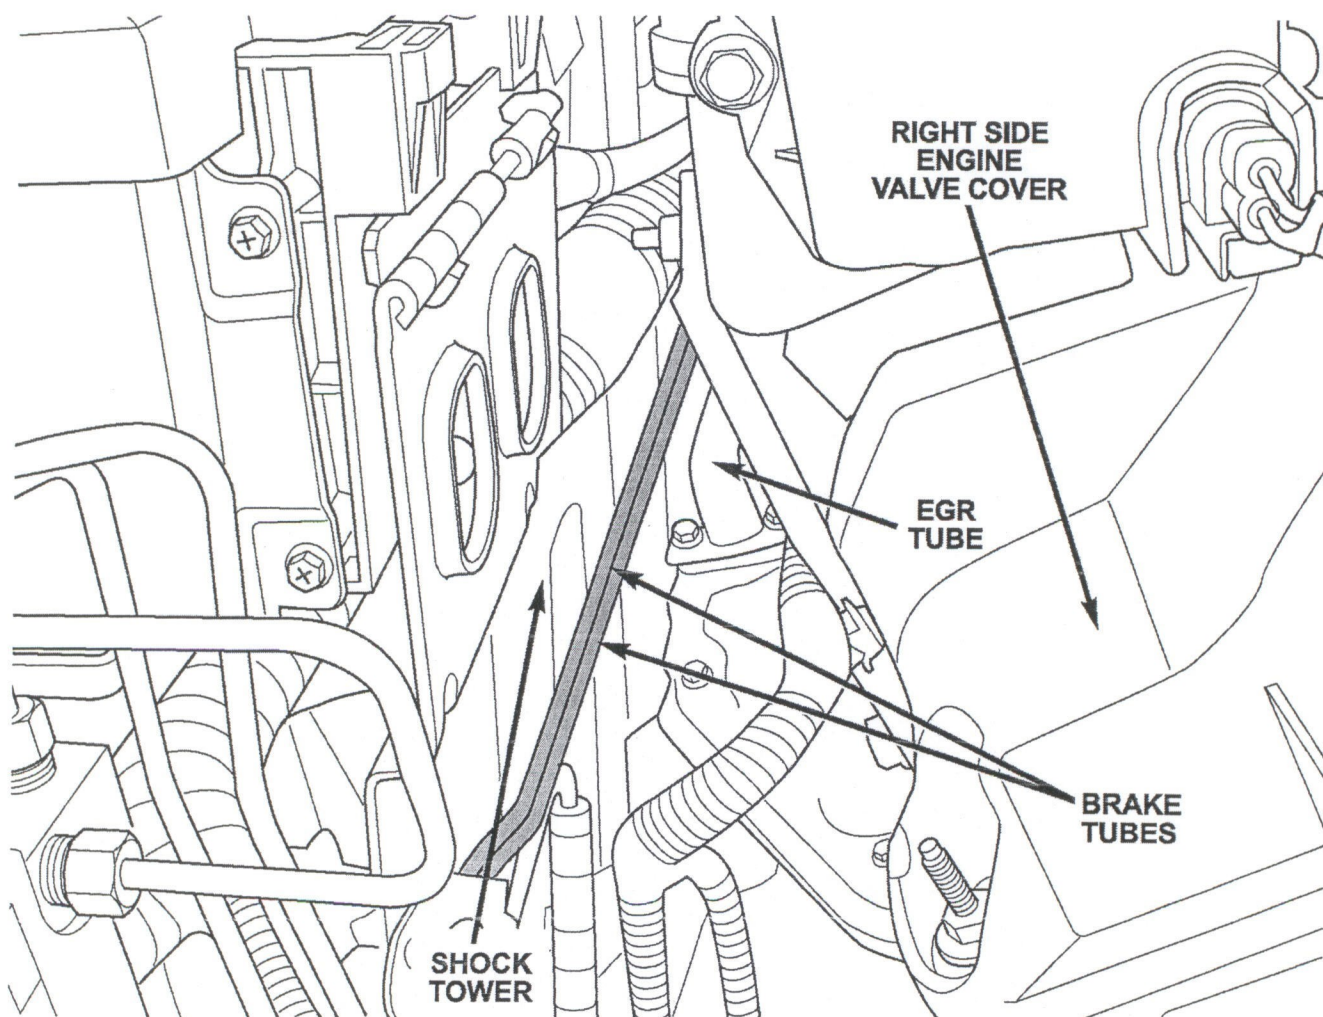

Figure 1
2. Inspect the rear brake tubes that route along the right shock tower for contact with the engine EGR tube (Figure 1).